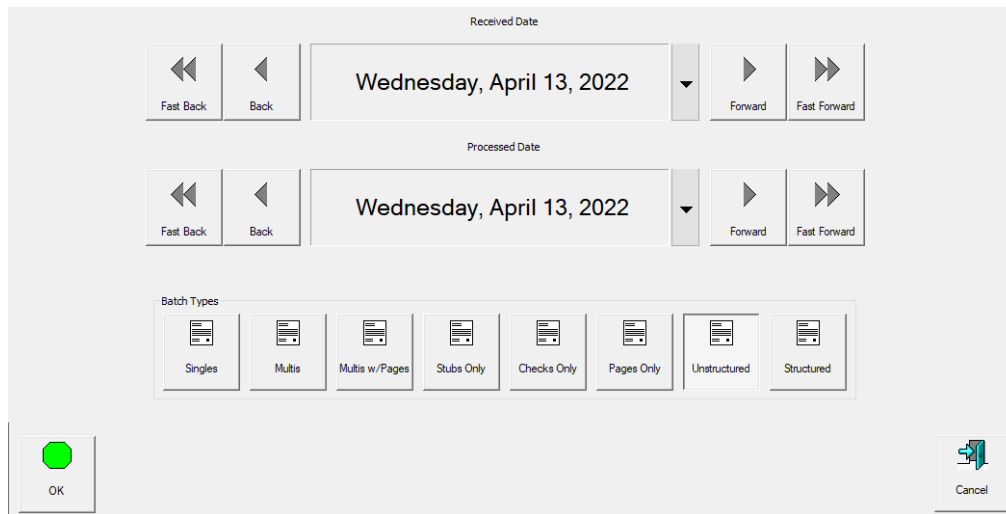

Figure 3-10: Prompt for Process and Receive Dates
- Prompt to change Job Type, Process and Receive Dates: Requires operator to select Job type and/or process dates. After selecting, click **OK** button to continue (Figure 3-10).